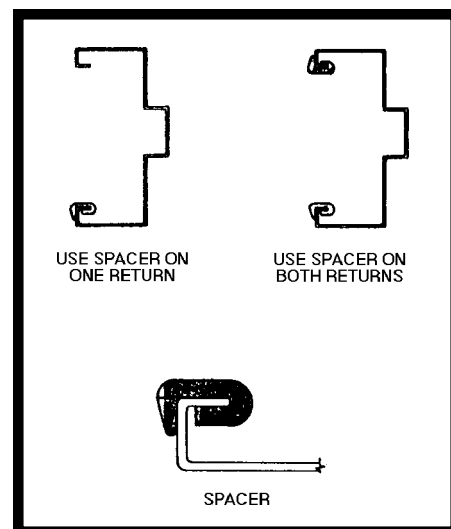

Figure 4
- II) If the gap is larger, the use of "spacers" can offset the lacking wall thickness. Refer to figure 4. The use of the "spacer" requires that the frame be removed from the opening, the spacer(s) attached and the frame reinstalled. The spacers can be used on either one or both of the frame returns which would result in spacers on either one side or both sides of the wall. These spacers are readily available from the frame manufacturer.